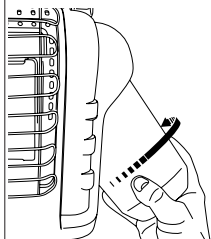

Figure 2: Attach Fuel Tank
- Swivel regulator outward for easy tank installation. Screw 1 lb. disposable propane gas supply cylinder clockwise (from bottom) into portable heater until hand-tight; see Figure 2. DO NOT use thread sealant on this connection.